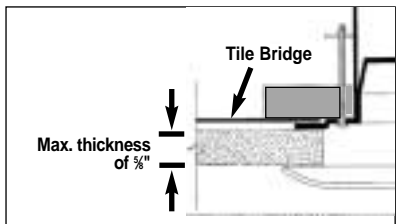

FIG. 4
**Figure 4:** Enclosure installation from below ceiling without tile bridge. This blind-mount installation method, which is most common in plaster, drywall and retrofit applications, is accomplished by cutting an opening to size, inserting the enclosure and rotating the clamps. Max. ceiling thickness is 1 1/4".